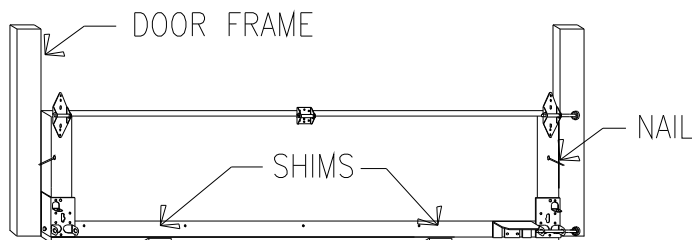

Figure 4
- Insert the bottom section into the opening and level with shims (figure 4).